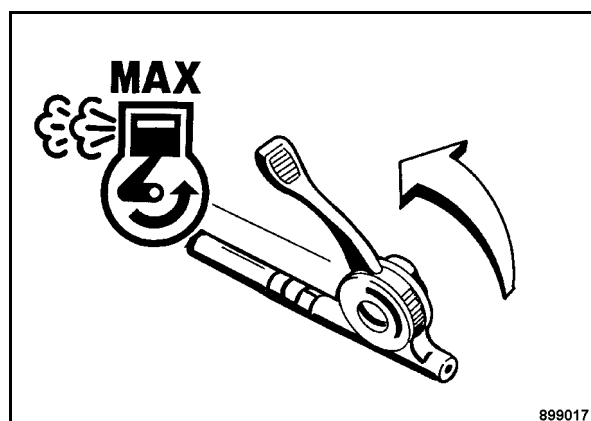

Fig. 39
- Always shift the throttle lever (Fig. 39) to position "MAX".